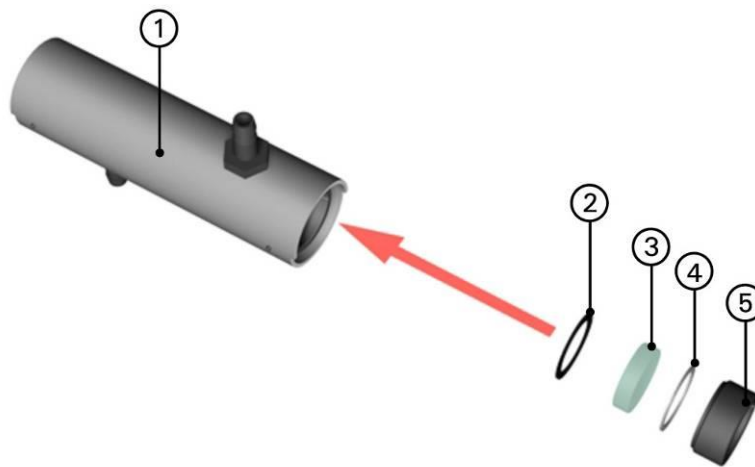

Figure 30: Calibration measuring cell window
1.	Remove the ring nut (Figure 30, pos. 5) using the face wrench.
2.	Remove the Teflon slide ring (Figure 30, pos. 4), measuring cell window (Figure 30, pos. 3) and the seal (Figure 30, pos. 2) from the calibration measuring cell.
4.	<p>Position the seal (Figure 30, pos. 2) in the bore of the calibration measuring cell.</p>
5.	<p>Reposition the measuring cell window (Figure 30, pos. 3) on the seal.</p>
6.	<p>Position the Teflon slide ring (Figure 30, pos. 4) on the measuring cell window.</p>
7.	<p>Screw in the ring nut (Figure 30, pos. 5) with the special wrench.</p> <div style="background-color: #e0e0e0; padding: 5px;"> <p> Do not fasten too tightly, as the measuring cell windows can break.</p> </div>